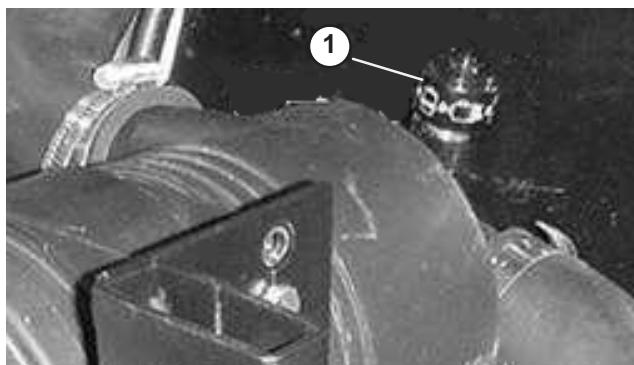

Figure 35
2. Service the air cleaner filter when air cleaner indicator (Fig. 35) shows red or every 400 hours (more frequently in extreme dusty or dirty conditions). Do not over service air filter.
7. Reset indicator (Fig. 35) if showing red.